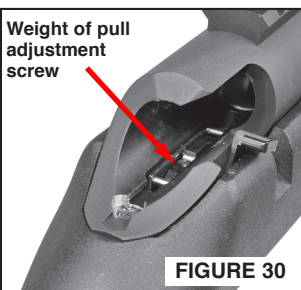

FIGURE 30
- Trigger “Weight of Pull” adjustment can be made by first removing the bolt from the receiver to gain access to the adjustment screw (FIGURE 30). The appropriate tool is included in the box from the factory (FIGURE 31).